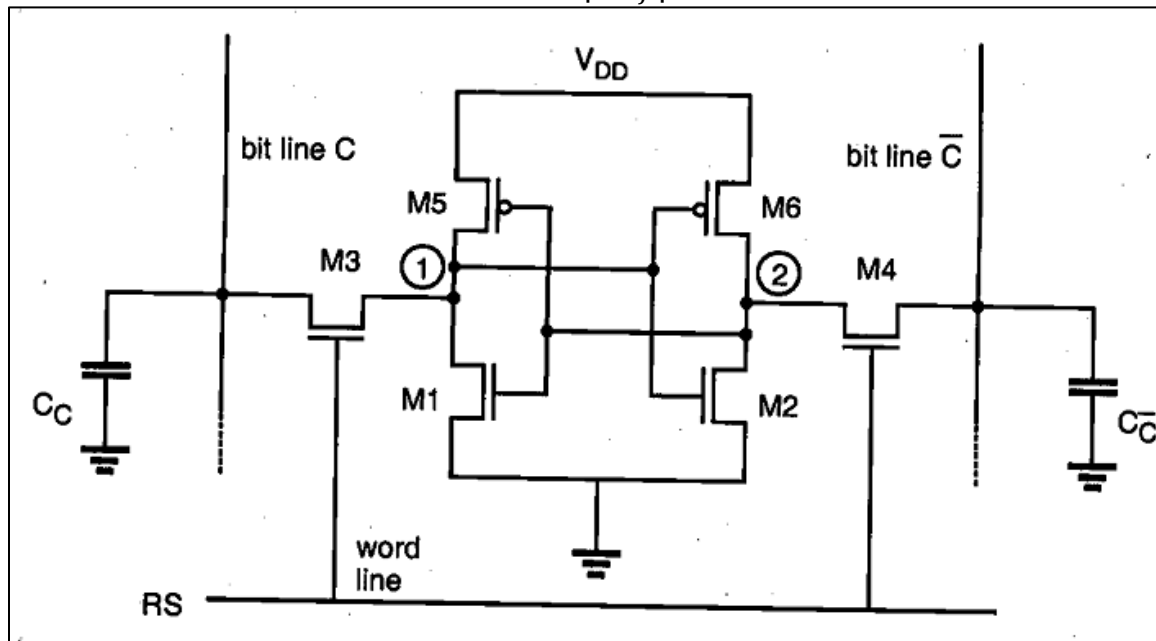

Figure 5
- 4) Consider the CMOS SRAM cell shown in Figure 5. Transistors M1 and M2 have (W/L) values of 4/4. Transistors M3 and M4 have (W/L) values of 2/4. M5 and M6 are to be sized such that the state of the cell can be changed for  $V_c < 0.5 \text{ V}$ . Assuming that M5 and M6 are the same size, calculate the required (W/L). Use the following parameters: